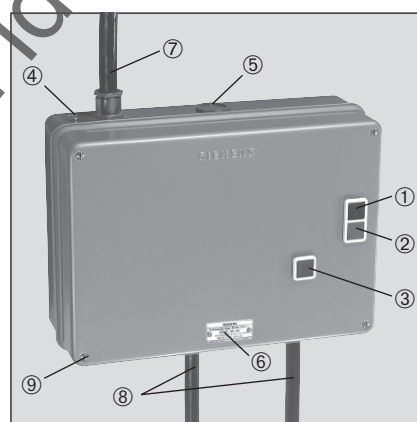

Fig. 2 : Starter Front View
- First start the motor by pressing the 'ON' button shown in fig.2 and hold it for 8-10 sec. Then leave the 'ON' button. Motor will automatically change in to 'Delta' connection.
- For starting the motor, press Green push button marked 'I' (fig. 2), hold it for 6-8 sec (starting time of the motor). Then leave the 'ON' button. Motor will automatically change into 'Delta' connection from 'Star' connection.
- For stopping the motor press Red push button marked 'O' (fig. 2).